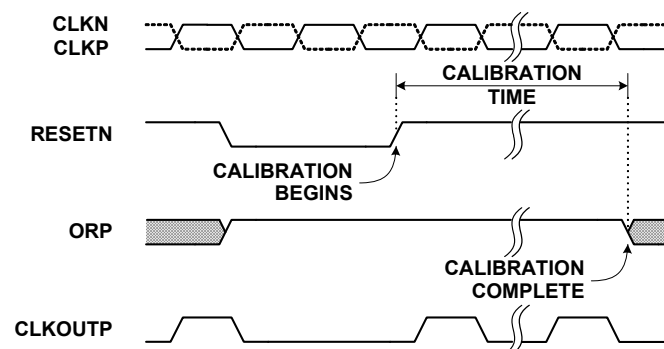

FIGURE 23. CALIBRATION TIMING
The calibration sequence is initiated on the rising edge of RESETN, as shown in Figure 23. The Over-Range (OR) output is set high once RESETN is pulled low, and remains in that state until calibration is complete. The OR output returns to normal operation at that time, so it is important that the analog input be within the converter's full-scale range to observe the transition. If the input is in an over-range condition the OR pin will stay high, and it will not be possible to detect the end of the calibration cycle.